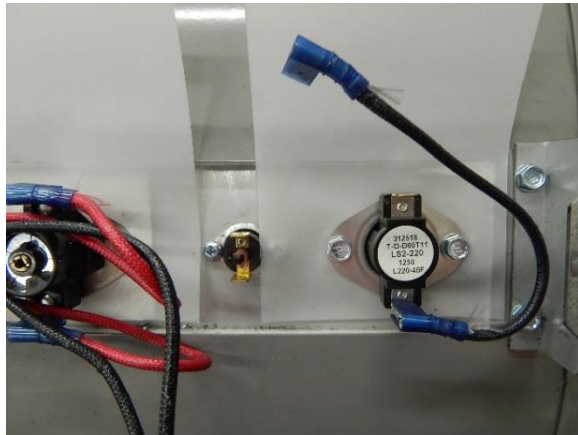

Figure 4: Disconnecting the high limits to remove
Step 8: Pull the high limit you need to replace straight out and replace it with a new high limit of the appropriate temperature setting. See Figure 4 for an example of the disconnected high limits.